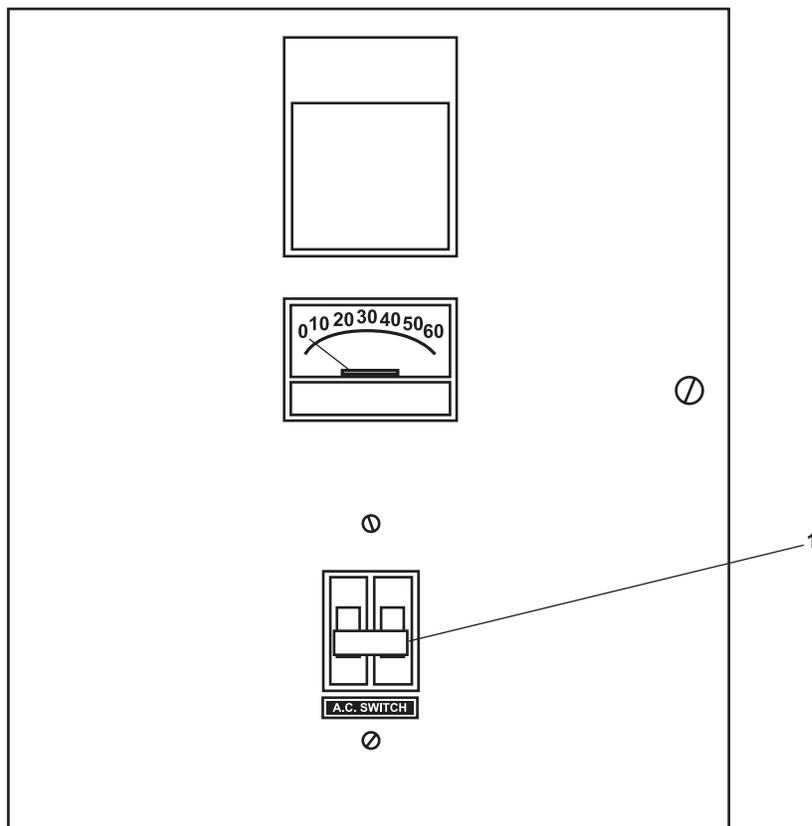

Figure 4. ROWPU Battery Charger
4. At the ROWPU battery charger, turn ON the A.C. SWITCH (figure 4, item 1).